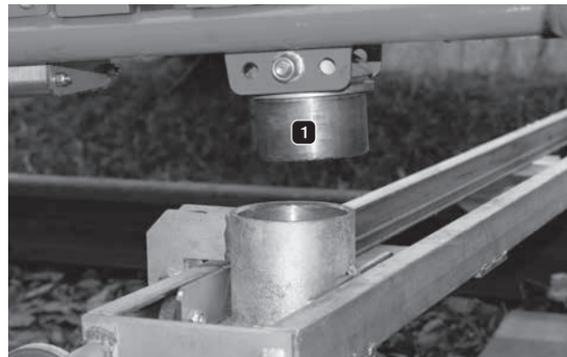

Figure 21: Thorn
- Always ensure that the wheels locate properly on the railway track (see Figure 21: Trolley with 4 wheels on the track).